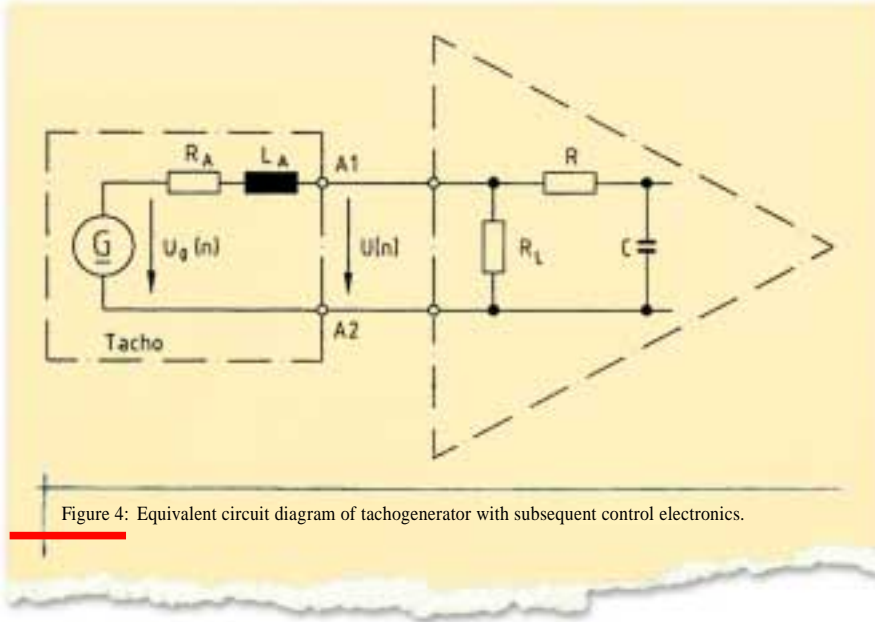

Figure 4: Equivalent circuit diagram of tachogenerator with subsequent control electronics.
From an electrical point of view, the tachogenerator represents a direct voltage source  $G$  with the no-load voltage  $U_0(n)$ , the armature (internal) resistance  $R_A$  and the armature inductivity  $L_A$ , which with the load resistance  $R_L$  is loaded, normally with the input resistance of the following control electronics (➔ Figure 4). For identification of the **speed-voltage characteristic**  $U_0(n)$  (➔ Figure 3), the no-load voltage gradient [mV/rpm], i.e. the gradient of the straight line, or the no-load voltage  $U_0$  normally delivered at rated speed  $n_n$  (typically  $n_n = 1,000$  rpm), is specified. Both are standard reference values.
If the tachogenerator is loaded with the **load resistance**  $R_L$  or load current  $I_L$  (➔ Figure 4), applied to the terminals A1 and A2, the voltage is reduced by the voltage drop due to the armature resistance  $R_A$
**Peak-to-peak value:** With an oscilloscope set to "AC", the harmonic voltage  $u_{pp}$  is measured, whereby the low pass character of the control electronics (➔ Figure 4) is simulated by an RC filter with the time constant
The equivalent circuit diagram of the tachogenerator (➔ Figure 4) contains in addition to the armature resistance  $R_A$  also the armature inductivity  $L_A$ . When terminating the circuit with a load resistance  $R_L$ , the tachogenerator voltage  $U(n)$  follows a change in the generated tachogenerator voltage  $U_0(n)$  with the armature circuit time constant